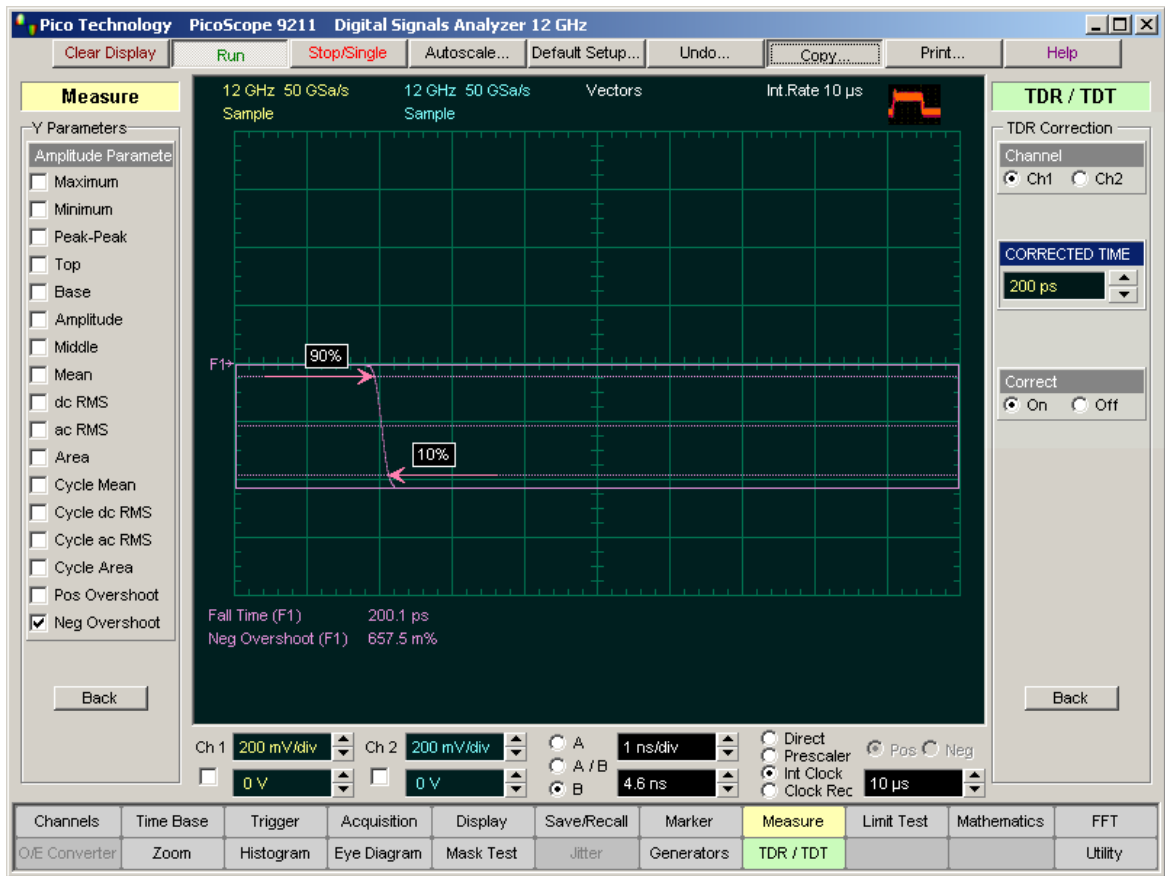

Figure 2
11. Set the **CORRECTED TIME** to 200 ps. See Figure 2.